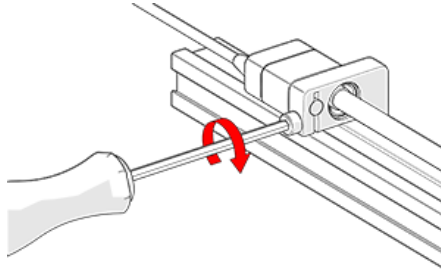

Figure 3-39 Tighten clamp screw
3. Tighten the 3 mm clamp screw on the index encoder support bracket (see Figure 3-39 on page 67).